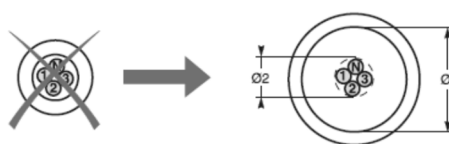

Fig. 5
4. As a rule, select a toroid that has an inside diameter which is twice that or greater than the outsider diameter of the cable(s) to be passed through (see Fig. 5).